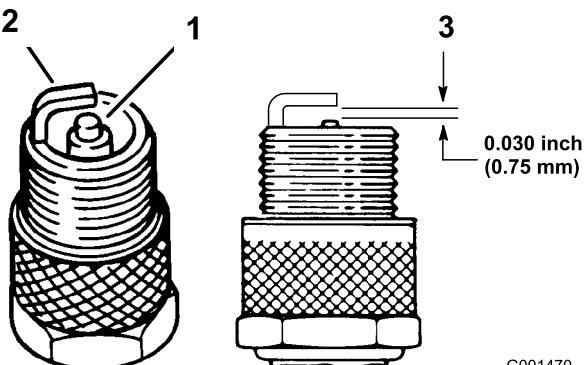

Figure 26
- Look at the center of the spark plugs (Figure 26). If you see light brown or gray on the insulator, the engine is operating properly. A black coating on the insulator usually means that the air cleaner is dirty.
- Check the gap between the center and side electrodes (Figure 26). Bend the side electrode (Figure 26) if the gap is not correct.
- Connect the wires to the spark plugs (Figure 26).